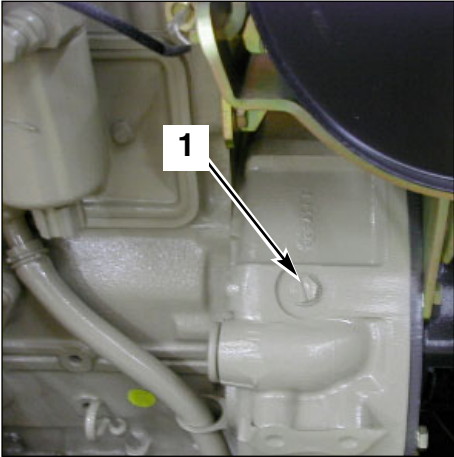

Fig. 1 Heat engine
- 3- Read the engine revs by monting an inductive sensor on the flywheel (1 fig. 1).